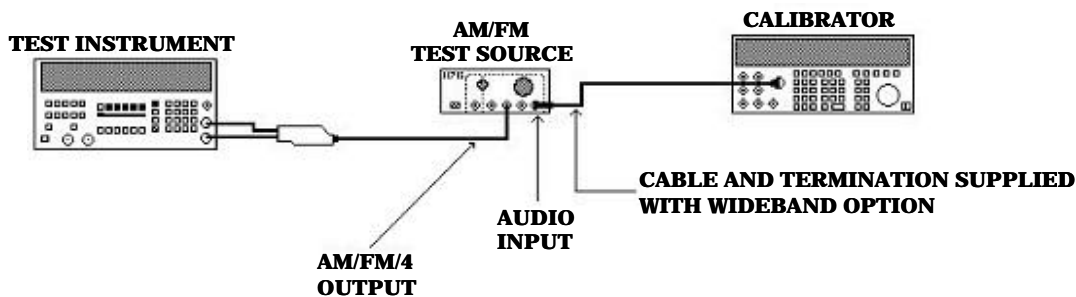

Figure 6. FM Equipment setup
- (8) Allow TI to take at least two readings.
- (9) Record TI indication value as 40 kHz ref for future reference.
- (10) If TI indication is not between 99 and 101 percent, perform **b** below.
- (11) Press TI keys as listed in (a) and (b) below:
- (12) Allow TI to take at least two readings.
- (13) Record TI indication value as 400 kHz ref for future reference.
- (14) If TI indication is not between 99 and 101 percent, perform **b** below.
- (15) Set AM/FM test source **TEST MODE** switch to **FM**.
- (16) Connect equipment as shown in figure 6 below.